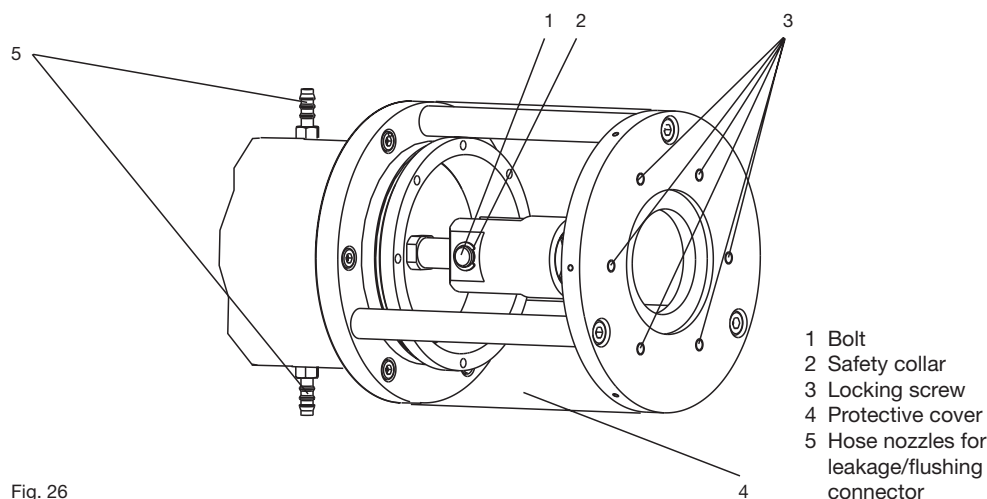

Fig. 26
- ▶ Unfasten the tensioning screw (3) with the face spanner and remove (see Fig. 26)
- ▶ Unfasten screws on liquid end flange (4) and remove liquid end flange
- ▶ Remove piston (1)